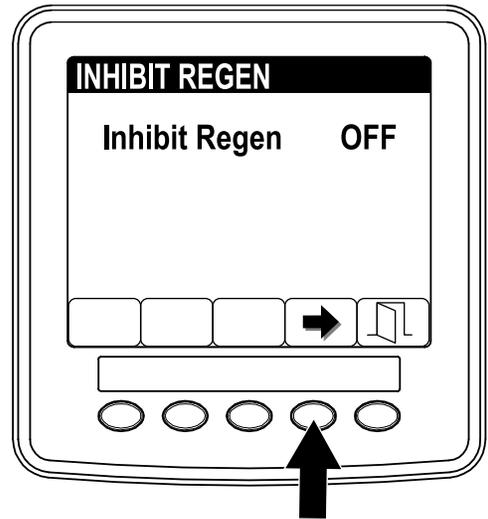

Figure 13
3. Press the button 4 to change the inhibit regeneration setting from On to Off (Figure 13) or from Off to On.